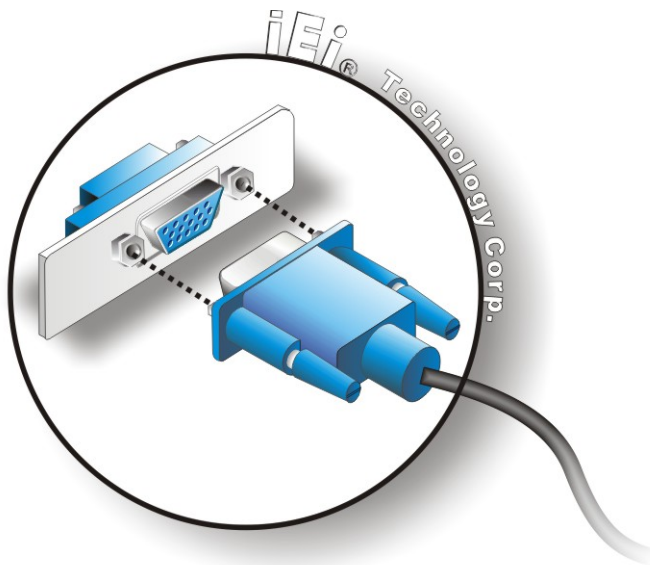

Figure 4-19: VGA Connector
- Step 3: Insert the VGA connector** Once the connectors are properly aligned with the insert the male connector from the VGA screen into the female connector on the WAFER-PV-D5252/D4252/N4552. See Figure 4-19.